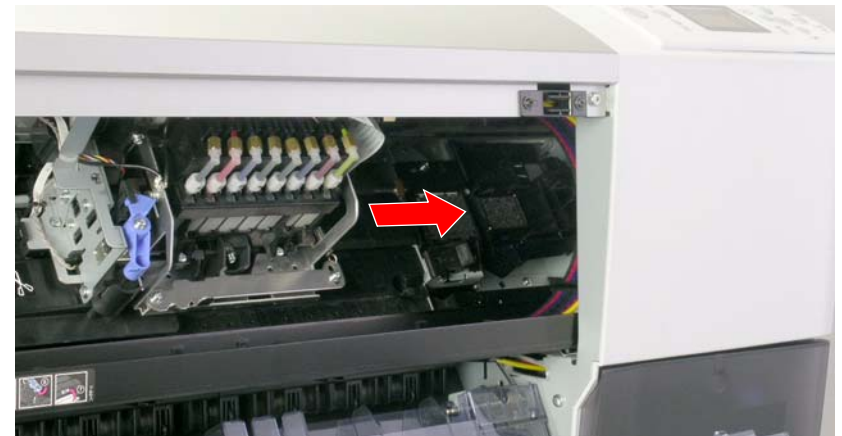

Figure 4-5. Locking the CARRIAGE ASSY.
1. Move the CARRIAGE ASSY. rightward. The unit is locked when you hear it clicks at its rightmost position. *See Figure 4-5.*